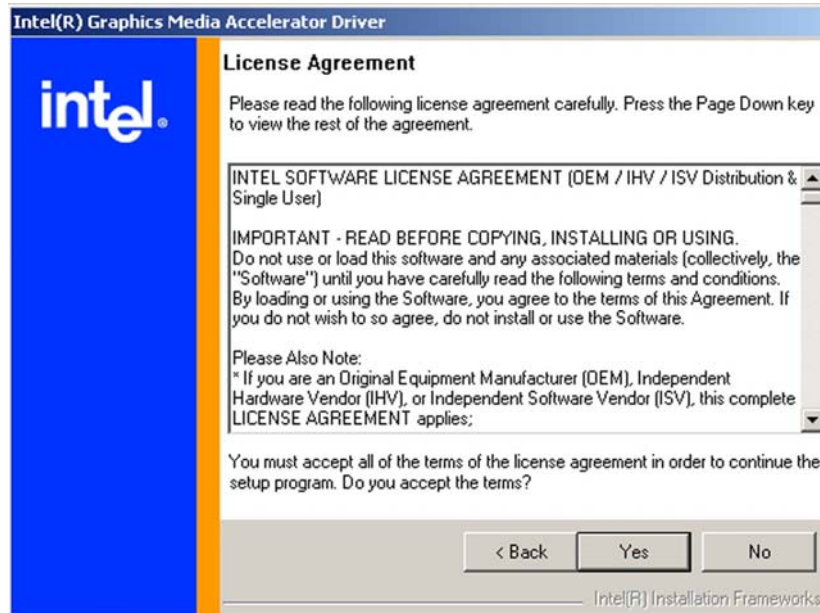

Figure 7-9: VGA Driver License Agreement
Step 6: A license agreement shown in **Figure 7-9** appears. Read through the license agreement.
Step 7: Accept the terms and conditions stipulated in the license agreement by clicking the "YES" button (**Figure 7-9**). The installation notice shown in **Figure 7-10** appears.